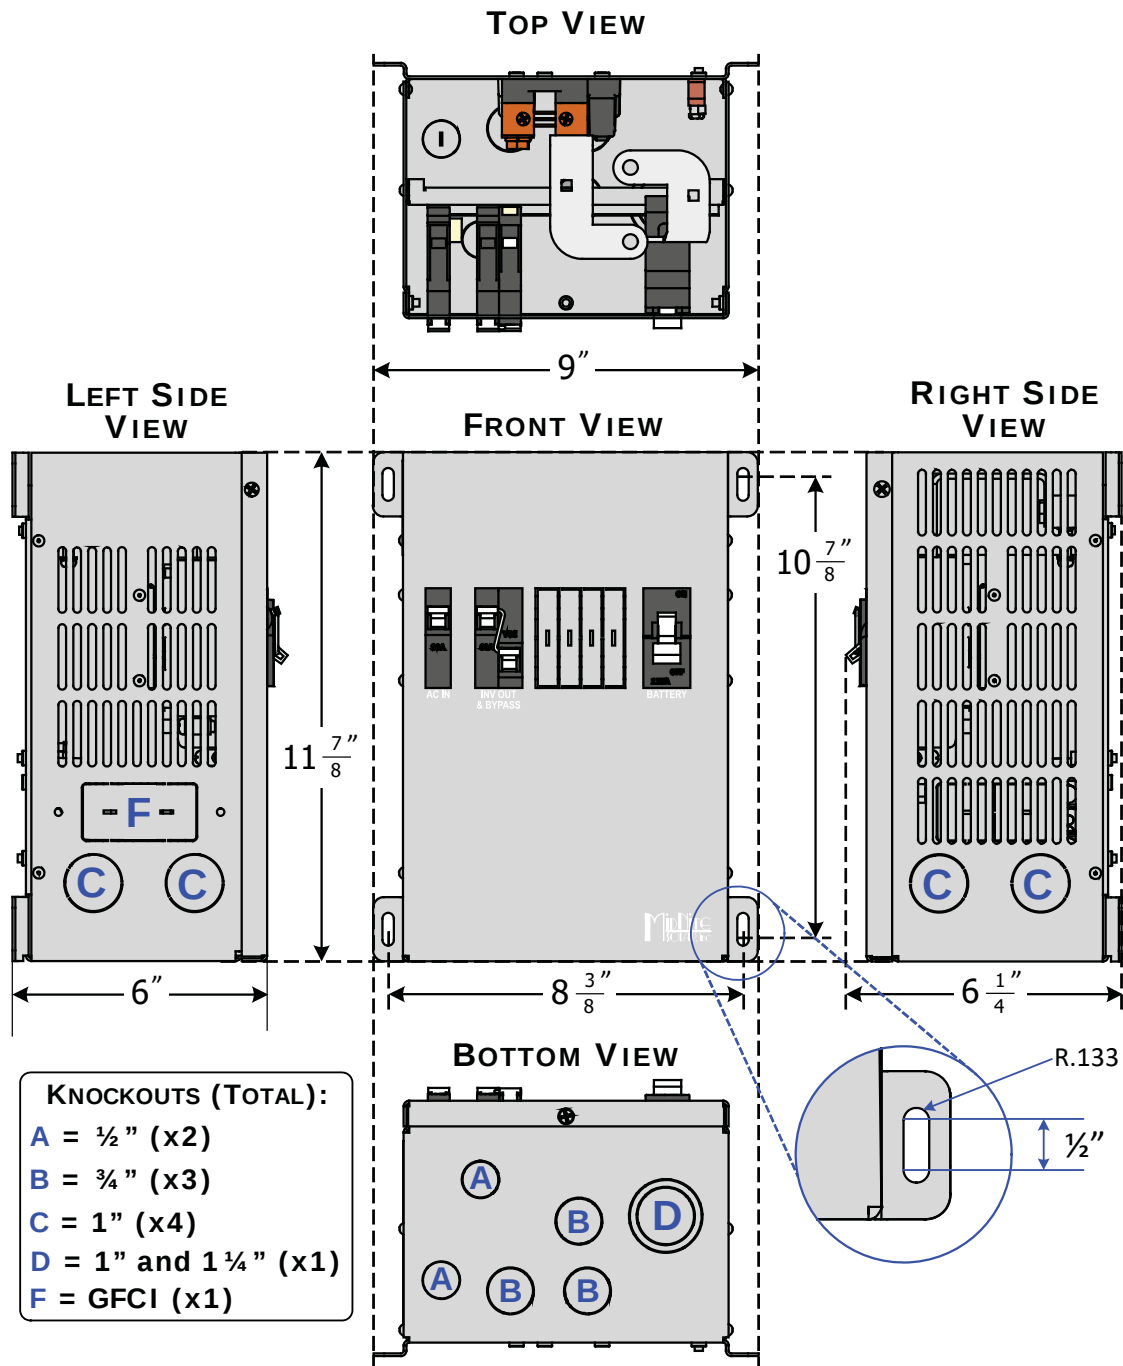

Figure 2-2, LR-BB Dimensions and Conduit Knockouts
- 1 Mounting Feet (x4)** – Four holes for mounting the enclosure. See Figure 2-2 for size information on these holes.
Note: Additional knockouts are located on the bottom, see Figure 2-2.
Refer to the dimensional drawing in Figure 2-2 to determine an appropriate area to install the LR Breaker Box/MNLR4548RE inverter system. Install it only in a location that meets the following requirements:
The LR-BB includes knockouts for 1/2", 3/4", 1", and 1 1/4" conduits (see Figure 2-2). Remove the knockout that is close to the terminal that the wire will connect to. They can be removed by tapping the edge with a straight bladed screwdriver and a hammer, then twist out with pliers.